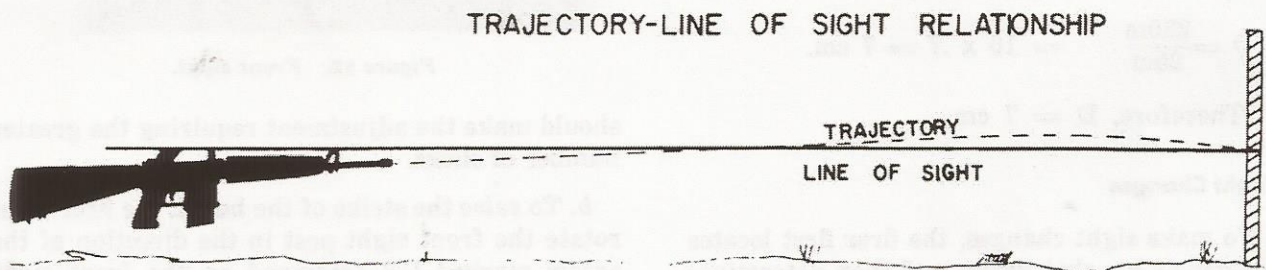

Figure 63. Trajectory.
a. In order to understand the principles of zeroing, the soldier should have a basic knowledge of ballistics: specifically, the relationship between the path of the bullet in flight and the line of sight. In flight, a bullet will follow a relatively straight line until loss of velocity and gravity combine to cause it to fall to earth, describing an arc as it does so. It will thusly appear to have a curved trajectory (fig 63). If the muzzle of a rifle is elevated at the time of firing the trajectory of the round will describe an even greater arc. The greater the distance a